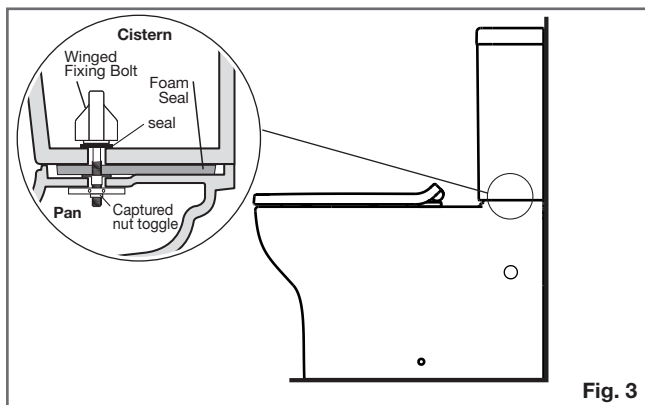

Fig. 3
- 3- Insert the Winged Fixing Bolts through the cistern fixing holes into the threaded fixing holes located in the pan. Gradually tighten the left and right hand nuts by hand to firmly secure the cistern to pan, as detailed in Fig. 3.